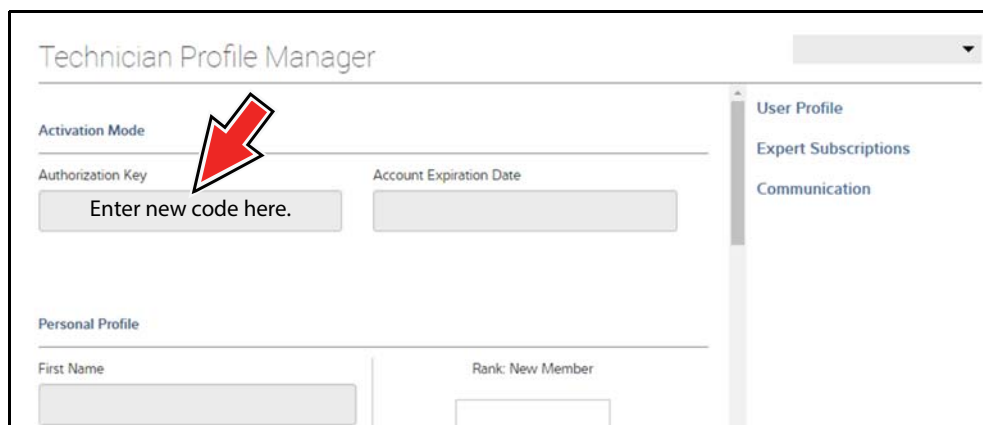

Figure 5-22
7. Enter your new **Authorization code** (Figure 5-22).